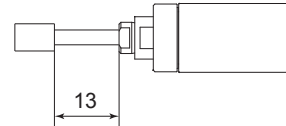

Fig. 11
- ① The proper surface speed for general grindstones is 10 - 30m / s.
- ② Do not exceed 13mm of overhang for mounted grindstones as shown in Fig. 11. If the overhang must exceed 13mm, reduce the motor speed in accordance with Table. 3.
- ③ Dress the grindstone prior to use.
- ④ Do not use cutting tools with bent or broken shanks, cracks or excessive run-out.
- ⑤ For grinding, the maximum depth of cut should not exceed 0.01mm radially or axially. Reciprocate the tool several times after each pass to eliminate tool pressure.
- ⑥ Always operate cutting tools within the allowable recommended speed of the cutting tools. Use of a cutting tool outside of the allowable speed of the cutting tools could cause damage to the Spindle and injury to the operator.
- ⑦ Keep the cutting tool shank and collet clean. If contaminants are left in the collet or collet nut, excessive run-out will cause damage to the cutting tool and or Spindle.
- ⑧ Do not strike or disassemble the Spindle.
- ⑨ Please set the cutting tools to minimize the overhang amount. 13mm is the maximum amount of overhang to maintain high accuracy and safety.